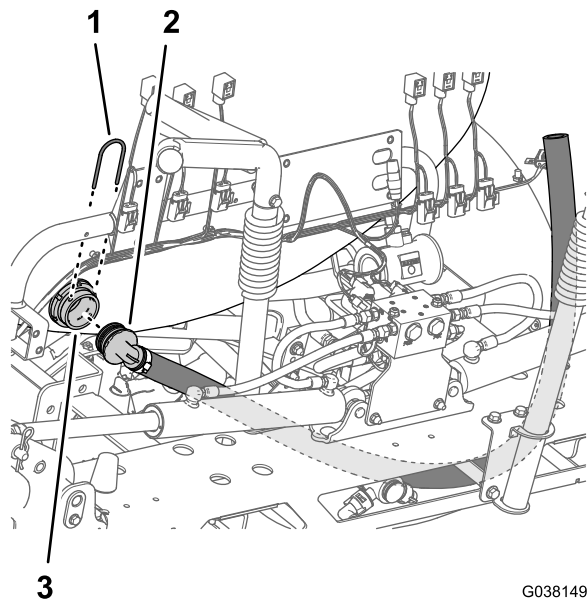

Figure 28
- 1. Remove the retainer that secures the 90° barbed fitting of the section bypass hose for the boom-section valves from the bulkhead fitting at the back of the sprayer tank (Figure 28).
- 2. Remove the 90° barbed fitting from the bulkhead fitting (Figure 28).